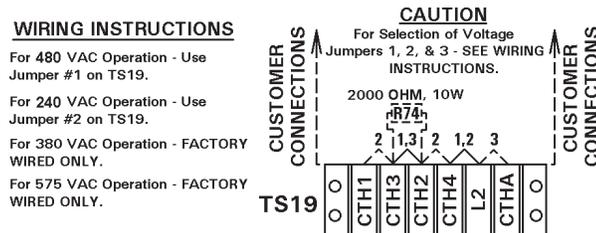

Figure 4-1. Voltage operation jumpers settings
1. **Control Transformer:** Jumpers on TS19-CTH1, TS19-CTH3, TS19-CTH2, and TS19-CTH4 must be configured to match the line voltage. For TS19 wiring, see Figure 4-1.